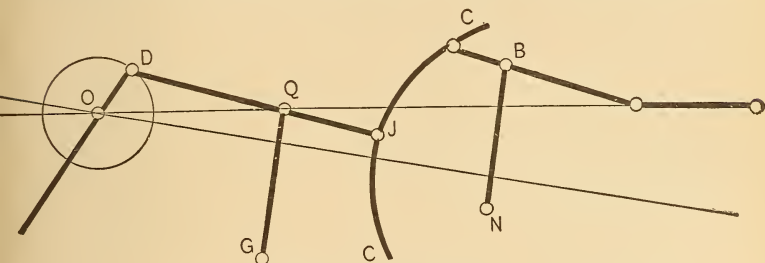

Fig. 97. Fink Gear.
A. Yes, the Pius Fink motion, the most simple of all. It is shown in outline in figure 97, in which the radius-rod is moved up and down by a bell-crank lever. O is the driving-axle, OR the crank, and D the eccentric, which stands 180° from the crank ; that